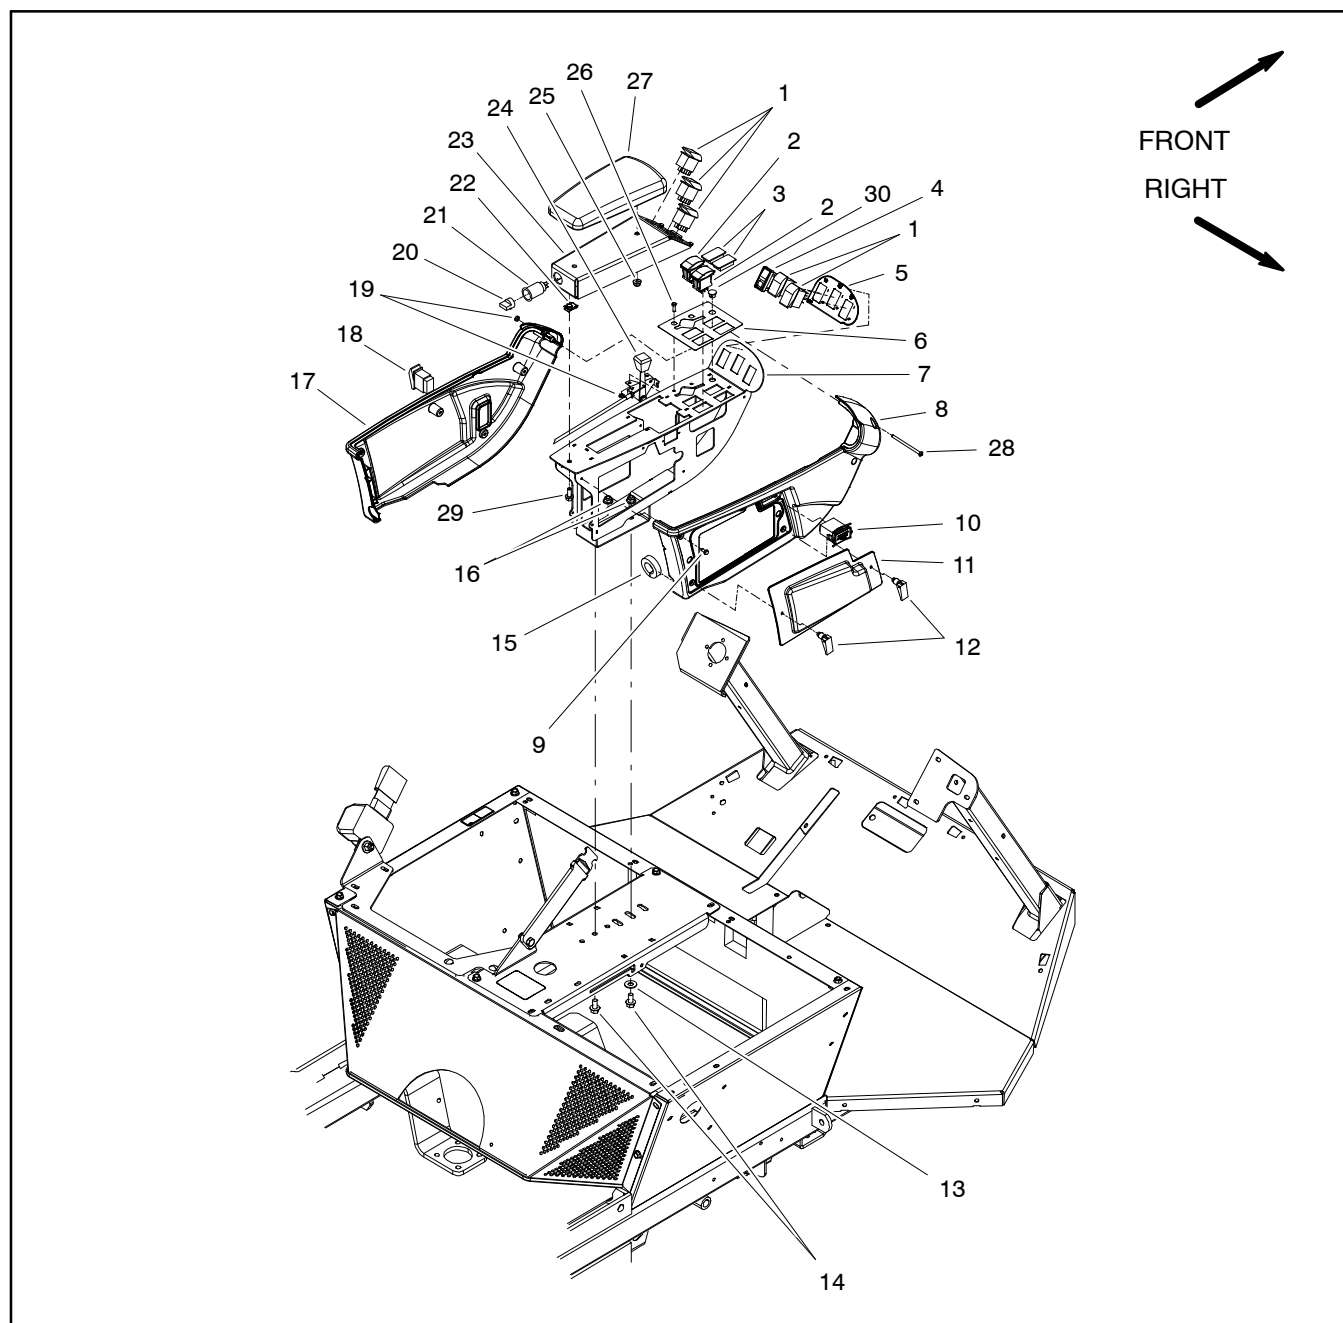

Figure 19
Disassembly (Fig. 19)
3. At front of console assembly, remove screw (item 28) and lock nut (item 19) that secure console arm covers to each other.
4. Remove five (5) washer head screws (item 9) that secure each cover to console assembly.
5. Remove console assembly covers from machine. As LH console cover (item 17) is removed from console assembly, unplug wire harness connector from headlight switch.
6. Remove components from console assembly as needed using Figures 19 and 20 as guides.
Assembly (Fig. 19)
1. Install all removed components to console assembly using Figures 19 and 20 as guides.
2. Position covers to console assembly. As LH cover (item 17) is placed, plug wire harness connector to headlight switch. Also, make sure that wire harness and throttle control cable are routed correctly through cover openings.
3. Secure each cover to console assembly with five (5) washer head screws (item 9). Install screw (item 28) and lock nut (item 19) to secure covers at front of console assembly.